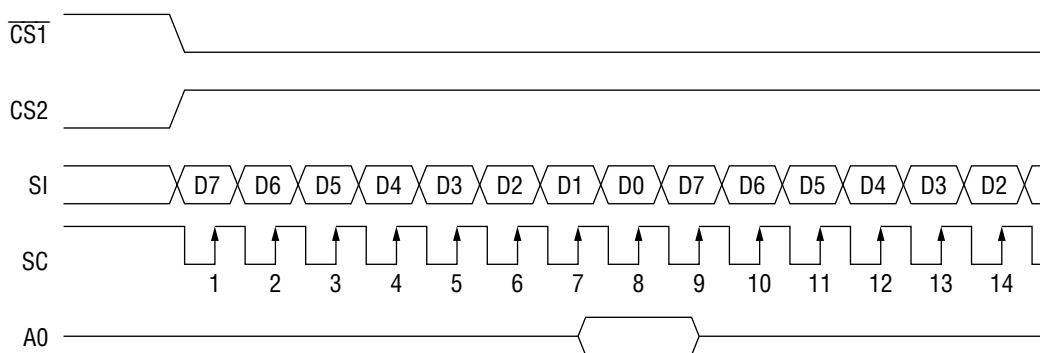

Fig. 1
When the serial interface is selected ( $P/\overline{S} = "L"$ ), the serial data input (SI) and the serial clock input (SCL) can be accepted if the chip is in the active state ( $\overline{CS1} = "L"$  and  $CS2 = "H"$ ). The serial interface consists of an 8-bit shift register and a 3-bit counter. The serial data is read in from the serial data input pin in the sequence D7, D6, ... , D0 at the rising edge of the serial clock input, and is converted into parallel data at the rising edge of the 8th serial clock pulse and processed further. The identification of whether the serial data is display data or command is judged based on the A0 input, and the data is treated as display data when A0 is "H" and as command when A0 is "L". The A0 input is read in and identified at the rising edge of the  $(8 \times n)$  th serial clock pulse after the chip has become active. Fig. 1 shows the signal chart of the serial interface. (When the chip is not active, the shift register and the counter are reset to their initial states. No data read out is possible in the case of the serial interface. It is necessary to take sufficient care about wiring termination reflection and external noise in the case of the SCL signal. We recommend verification of operation in an actual unit.)